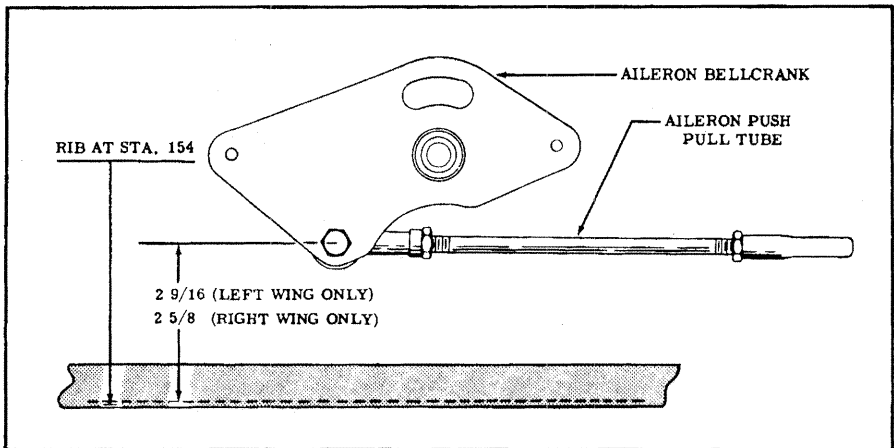

Figure 16. Aileron Bellcrank Adjustment
- (1) Place control wheels in neutral position and place a neutral bar across the top of both wheels, using tape or a clamp to secure them. Install chain over sprockets, leaving approximately nine links inboard of the chain guard on each side of the turnbuckle.
- (2) String cables back through system.
- (3) The ailerons on the Model 175 are restricted in travel by a feature built into the bellcranks. Stops in the bellcrank allow a total travel of  $35^{\circ}$ . In rigging the ailerons, it is important that the bellcranks are neutralized. Connect the cables and adjust bellcrank to a position as shown in figure 16. Cable tension should be 20 to 40 pounds with the control wheels in the full-forward position. This position should be maintained in checking the tension.
- (4) Adjust ailerons to neutral position, by reference to the wing flaps. This adjustment is made by disconnecting the aileron push-pull tube from the bellcrank, and making adjustment on the rod end at the aileron.
- (5) Check travel which should be  $20^{\circ}$  up and  $15^{\circ}$  down, with a